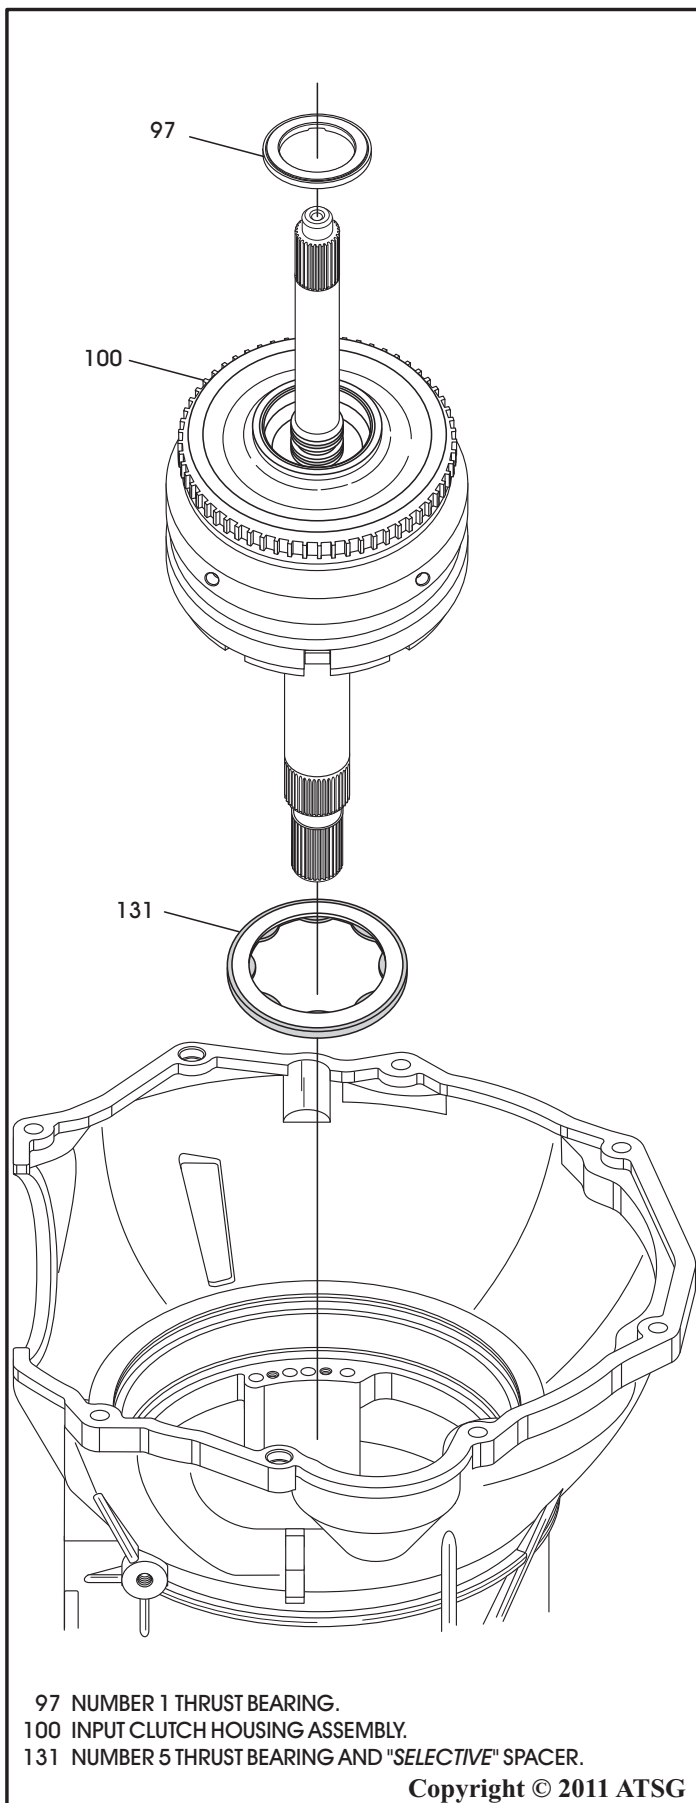

Figure 46
27. Remove the input clutch housing assembly by lifting straight up, as shown in Figure 46.
28. Remove the number 1 thrust bearing from inside the input housing, as shown in Figure 46.
29. Remove number 5 thrust bearing and "selective" thrust bearing spacer, as shown in Figure 46.